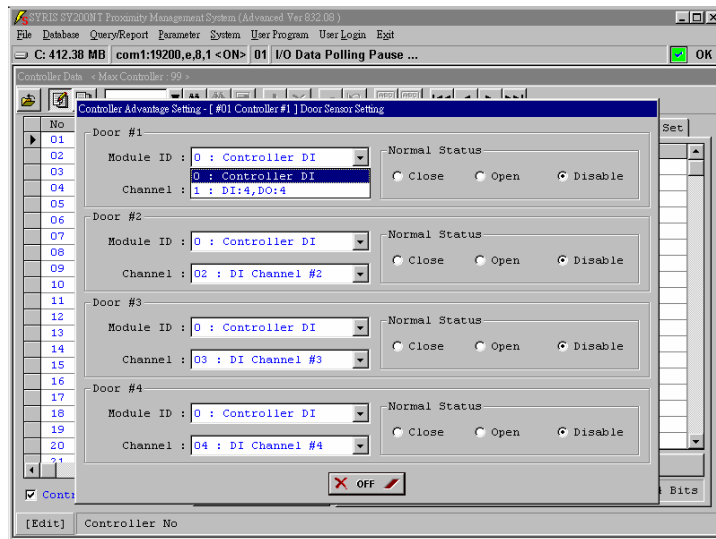

Fig.11-4 Door Sensor – DI Module Select
5. Click each door "Module ID" to select module, as Fig.11-4.